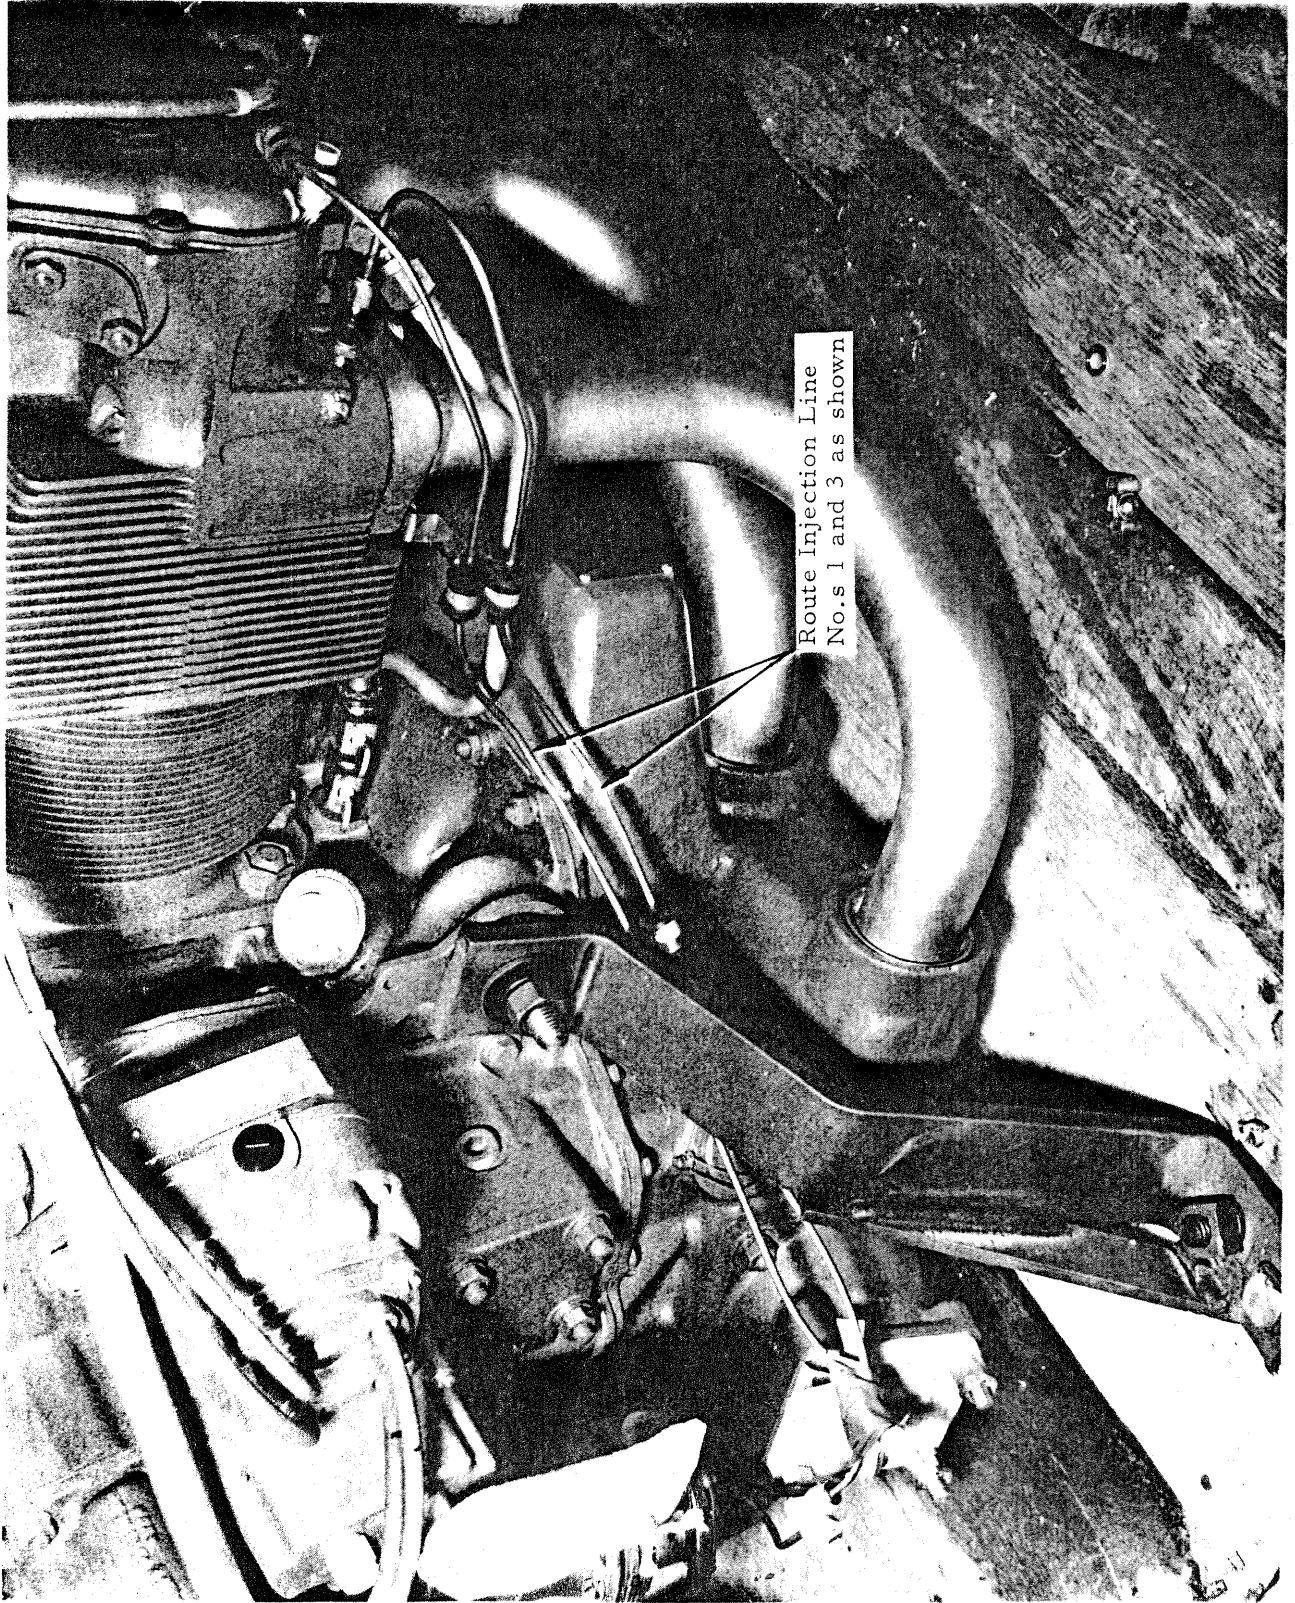

Figure 1. Fuel Injection Line and 3 Installation, View A
- e. Bend lines using hand force to conform to routing shown, figure 1 and 2.
- h. Relocate sump attachment bracket to position shown, figure 1 and 2.